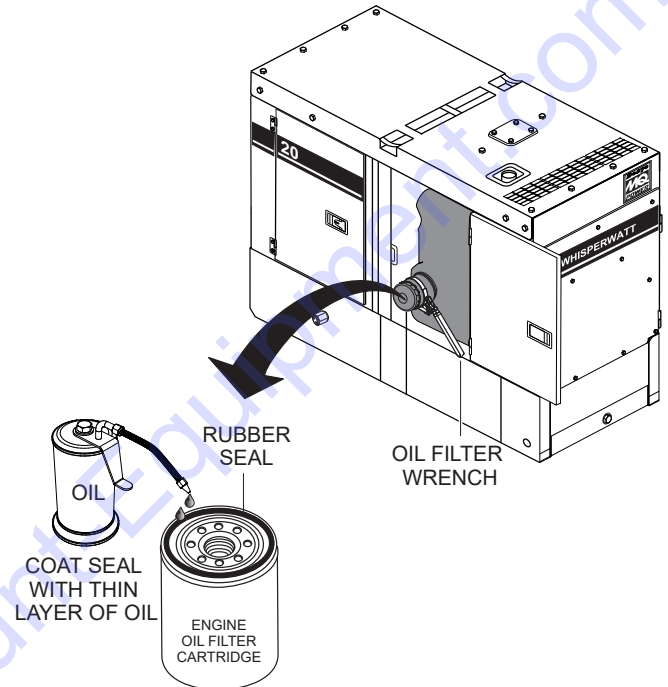

**Figure 55. Draining Engine Oil**
4. Remove the **oil drain cap** (Figure 55).
5. Place the **oil drain valve** in the open position (Figure 55) and allow the oil to drain into a suitable container.